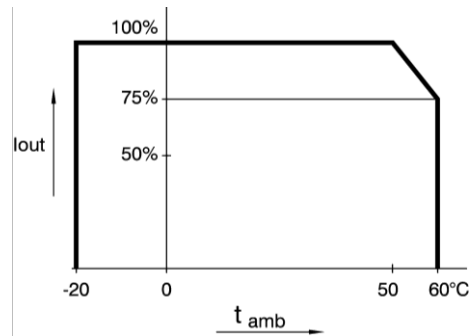

Figure 6.10: Operating temperature ranges. Note the current derating is the same for either sink or source mode.
- At full power, the operating temperature range is -20 to +50 °C. From 50 to 60 °C the output current (either positive or negative) has to be derated linearly to 75% at 60 °C, see Figure 6.10. These temperatures hold for normal operation, i.e. the air intakes & air outlets on the left and right side must be free.